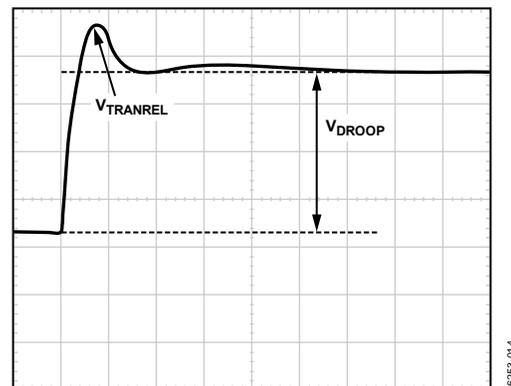

Figure 17. Transient Setting Waveform
20. For load release (see Figure 17), if  $V_{TRANREL}$  is larger than the allowed overshoot, there is not enough output capacitance. Either more capacitance is needed, or the inductor values need to be made smaller. When changing inductors, start the design again using a spreadsheet and this tuning procedure.